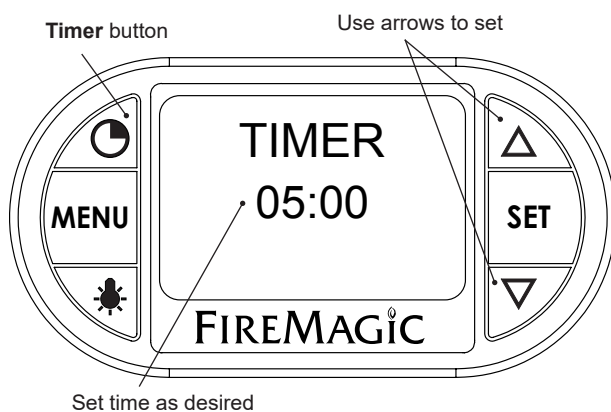

Fig. 32-4 Timer screen
1. Press the timer button. Use the arrows to set the desired amount of time (see Fig. 32-4.)